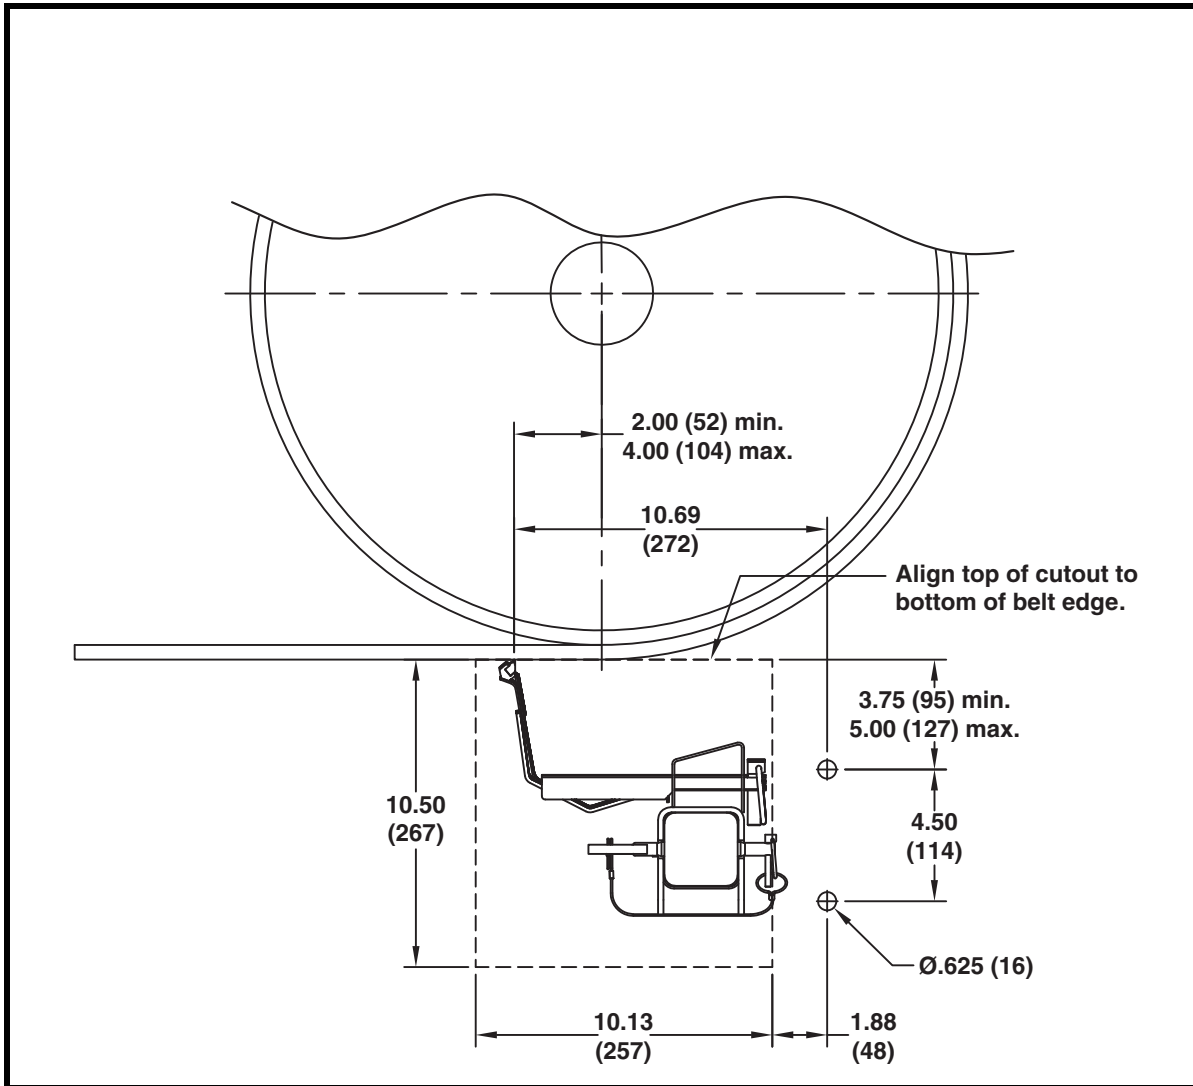

Figure 1. Mounting Location
1. Mark the chute cutout and mount hole locations as shown in Figure 1. Repeat on both sides of chute, ensuring cutouts are accurately aligned with each other.
1. Slide blade cartridge onto mainframe with blade positioned as shown in Figure 1. Push far side end of blade against stationary pin until it locks.